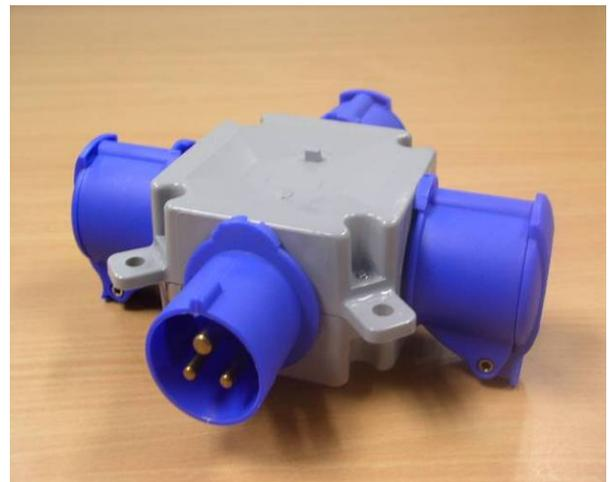

Fig.8 – Multiple socket outlet adapters such as shown in this photograph do not conform to any IEC standards and are not safe for use
- ❖ Multiple socket outlet adapters such as that shown in Figure 8 do not conform to any IEC standards and shall not be used. **The use of such adapters can lead to overloading of the electrical circuit and electrocution.** Hence, it is not safe to use such adapters.